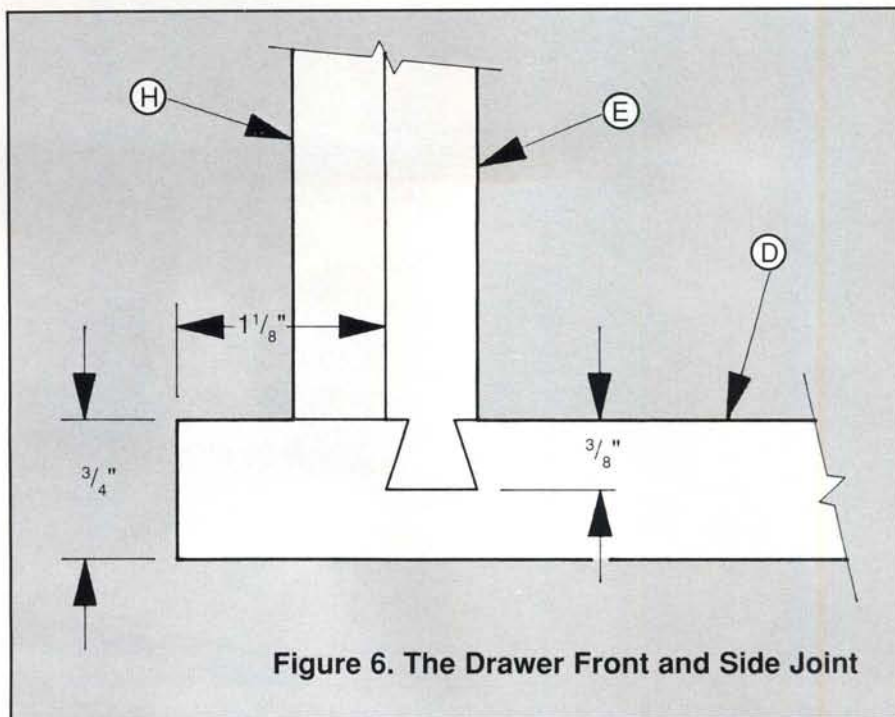

Figure 6. The Drawer Front and Side Joint
The drawer in this writing table is constructed a little differently than most. It needs to have extra width on the front to cover the drawer hangers, thus the standard half-blind dovetail joint between front and sides won't work. What we'll use is a running dovetail as shown in Figure 6. There is a rather simple way to make this joint which I'll outline for you. First, make the front (D), sides (E), and back (F)